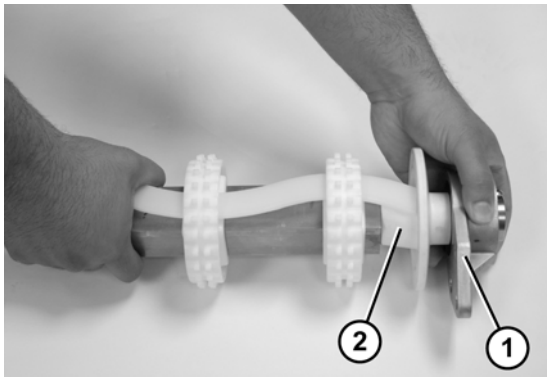

Figure 65
9. Slide the 3 hole flange with bearing (**Figure 65, item 1**) and flanged puck (**Figure 65, item 2**) off the drive spindle.